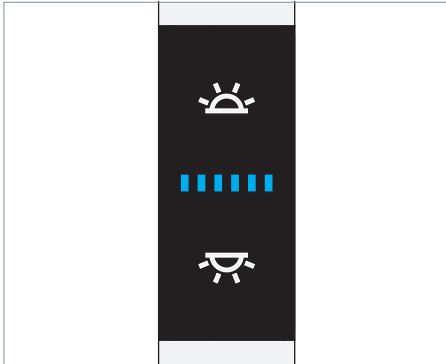

Fig. 22: Operating element.
- ▶ Press the upper switch, see Fig. 22
- ▶ Press the lower switch, see Fig. 22.
- ▶ Press the upper switch and keep it depressed, see Fig. 22.
- ▶ Press the lower switch and keep it depressed, see Fig. 22.